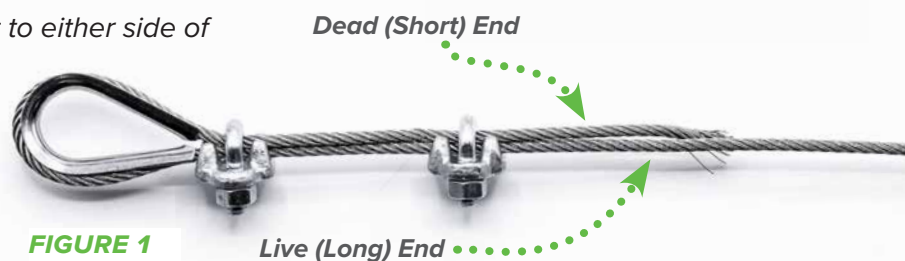

FIGURE 1
6. Attach cable to thimble on brace band. Insert cable end around thimble and pull tight. Secure cable using two cable clamps. The U-Bolt of all clamps should saddle dead end of cable. SEE FIGURE 1